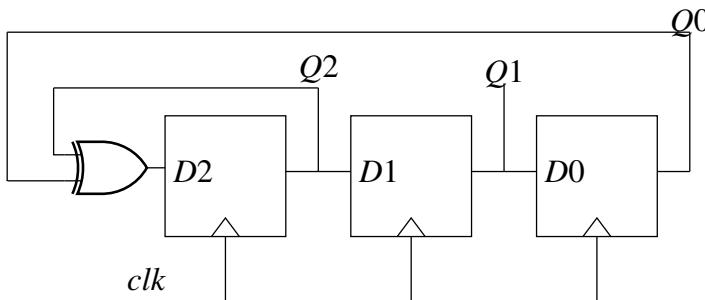

Fig. 5.3
3. In the circuit in Fig. 5.3, the clock(Clk) frequency provided to the circuit is 500MHz. Starting from the initial value of the flip-flop outputs  $Q2Q1Q0 = 111$  with  $D2 = 1$ , find the time after which  $Q2Q1Q0 = 100$ . (GATE EC 2021)